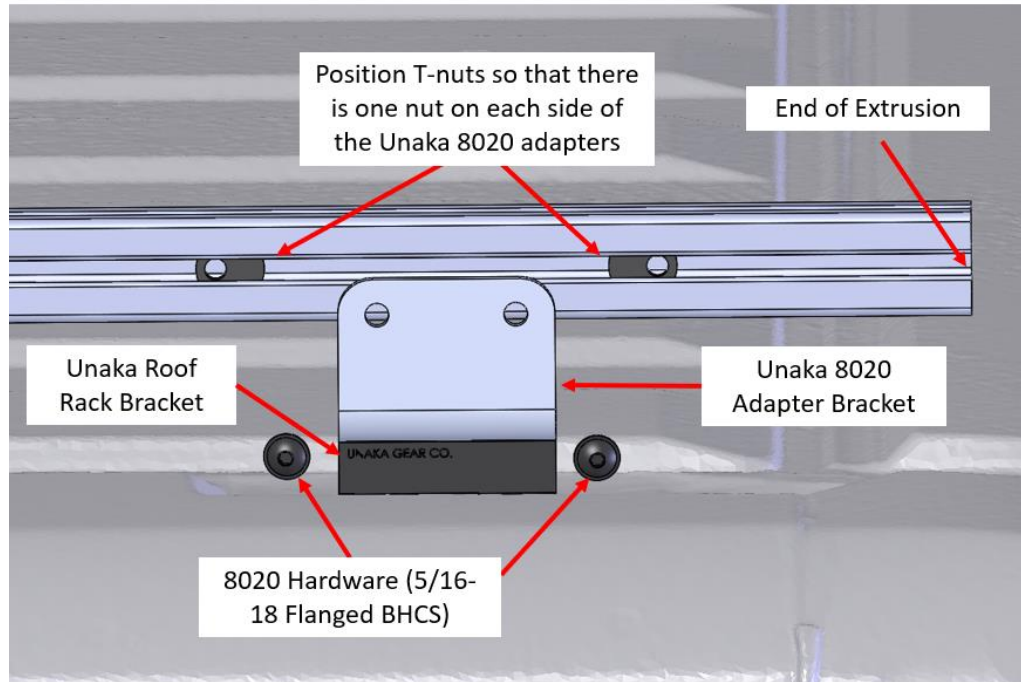
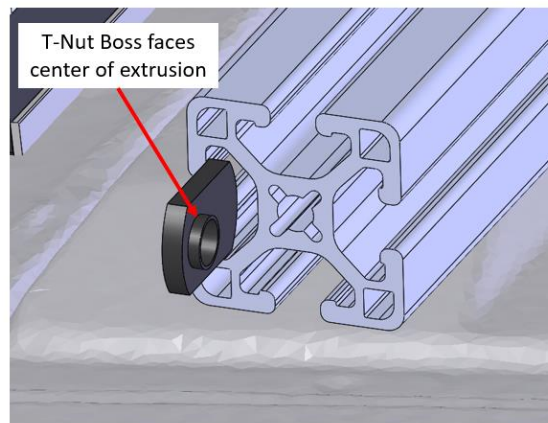

Figure 12: Unaka 8020 adapter hardware installation
Figure 13: 8020 T-Nut Installation
3. Slide 2 x T-nuts into the extrusion for each 8020 adapter you will be bolting to. Space the T-nuts so they are 2" to 3" outside of the 8020 adapter profile on each side, Figure 12. This will allow you to slide them into place when you are ready to insert the hardware. We typically place the long end of the t-nut towards the center of the bracket. Note 8020 specifies the boss on the t-nut should be facing the middle of the extrusion as shown in Figure 13.